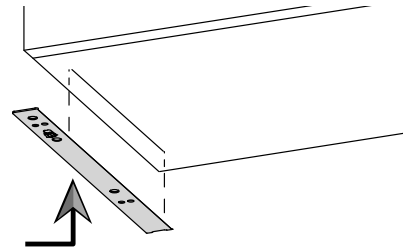

Fig. 17-2
- Slide the bracket inwards and align it against the marked line. Ensure the rear edge is tight against wall as shown in fig. 17-2.